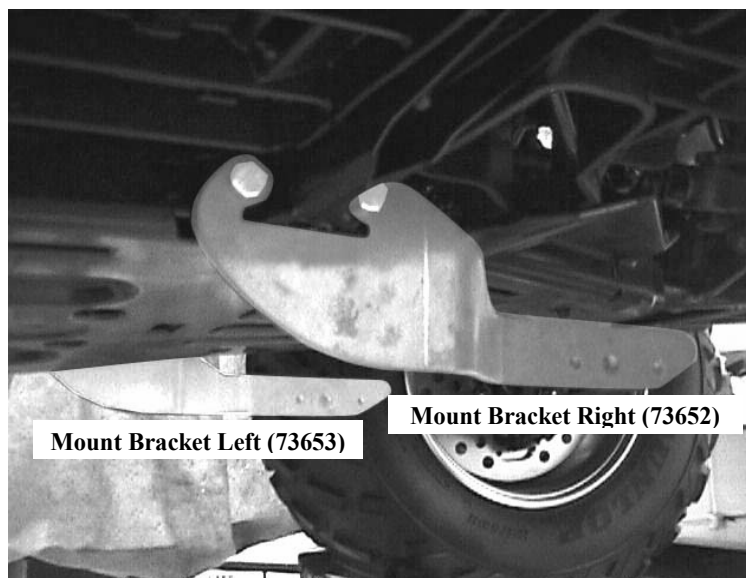

Figure 1
1. Remove the forward two bolts under the bike on both sides that attach the foot rest to the bike chassis. Take the mounting brackets (73652 & 73653) in the kit and place them over the holes. Attach the mounting brackets to the bike using four 10mm dia – 25mm long bolts, and 10mm lock washers as shown in figure 1. The lock washer should be placed between the head of the bolt and the flat washer. Do not tighten the bolts all the way, you will do this later in the installation. Installed properly, the brackets will bend inward.
- Tighten all four bolts on the mounting brackets installed in step 1 and as shown in figure 1.